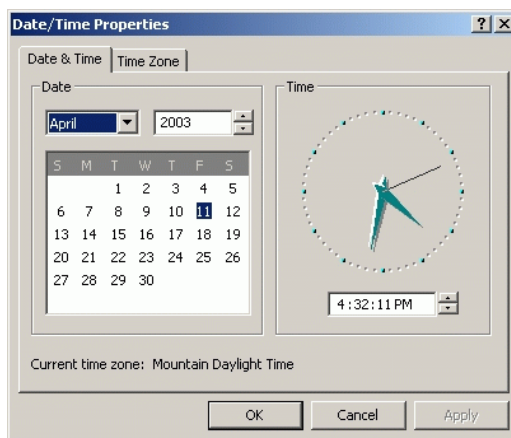

Figure 2-65 Date/Time Properties Dialog Box (Date & Time Tab)
2. Double-click the *Date/Time* icon. The *Date/Time Properties* dialog box displays with the *Date & Time* page open (Figure 2-65).